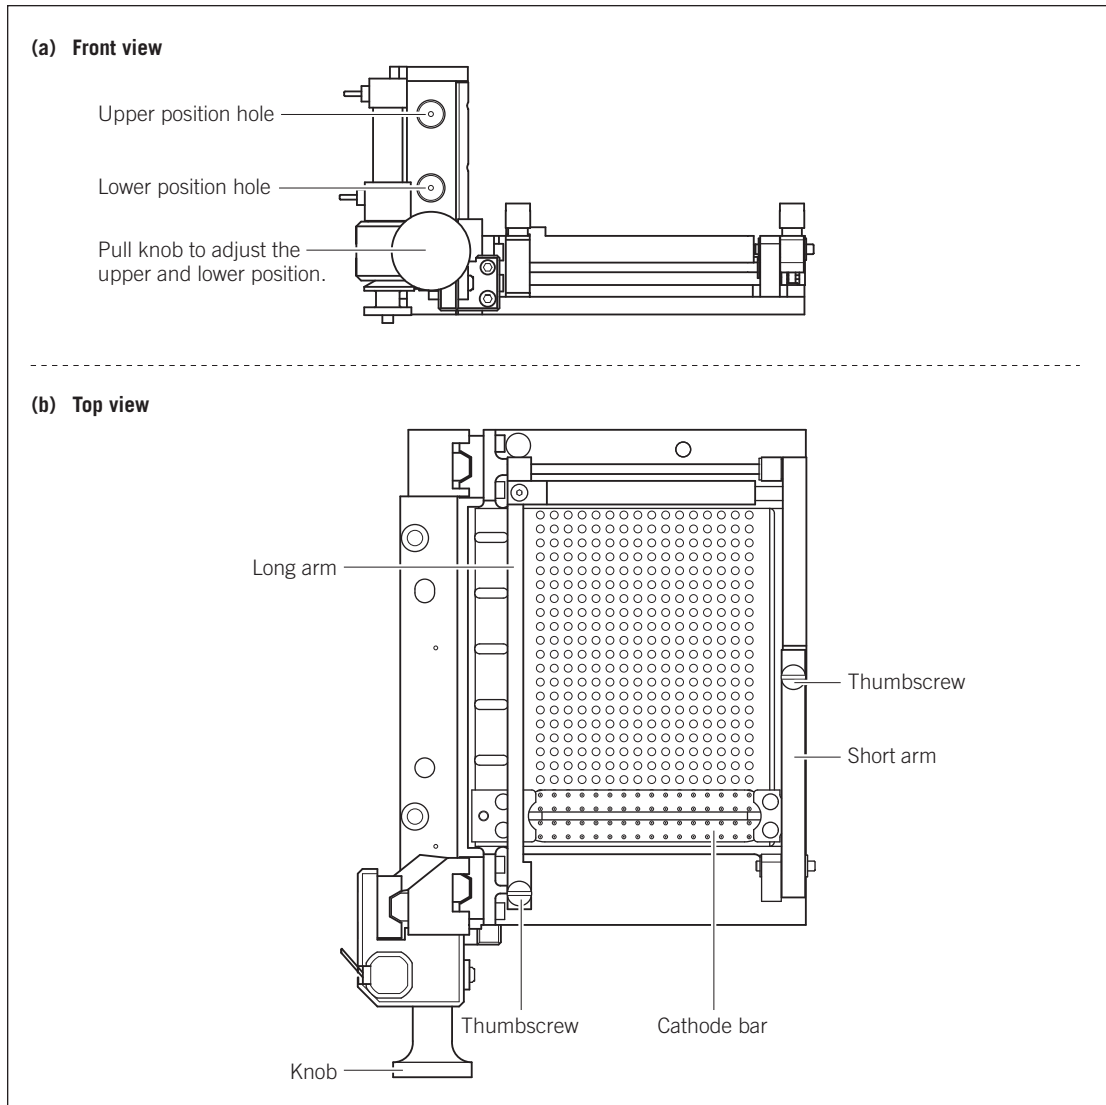

Figure 7-6. The cathode array stand: (a) front view and (b) top view.
5. Start with the front array labeled 6. Gently lift the left and right ends of the front cathode bar (figure 7-6) to release the bar from the cathode stand.